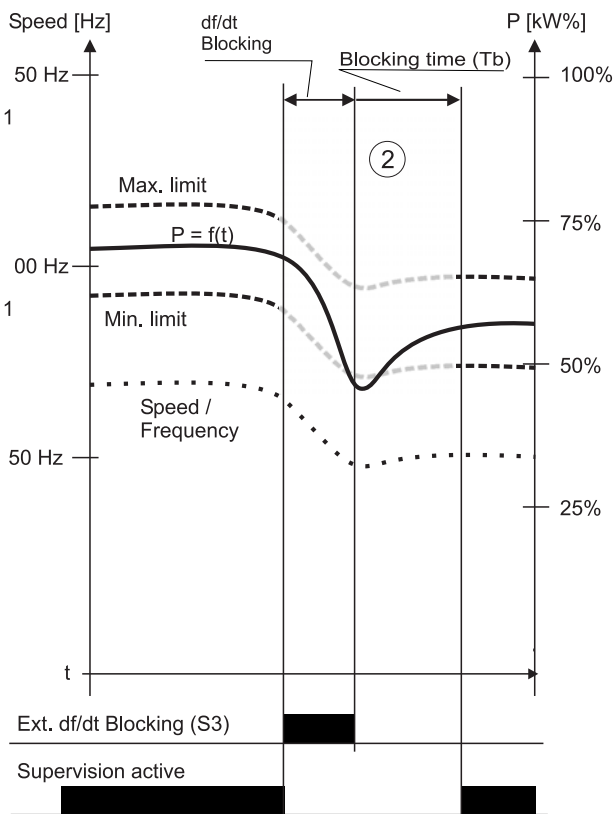

Figure 4.7 Controlled df/dt blocking (S3)
Via the digital input S3 (27) the supervision may likewise be disabled externally. This may be done for instance using a signal from the frequency inverter telling that the speed is reached. The supervision remains disabled as long as the input S3 is active but may be extended with the blocking time Tb (2) - see figure 4.7.